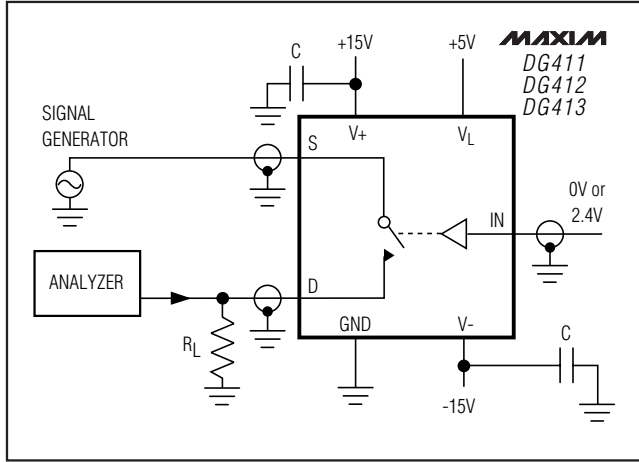

Figure 5. Off-Isolation
**Note 5:** Off-Isolation =  $20\log(V_D/V_S)$ , VD = output, VS = input to off switch. See Figure 5.